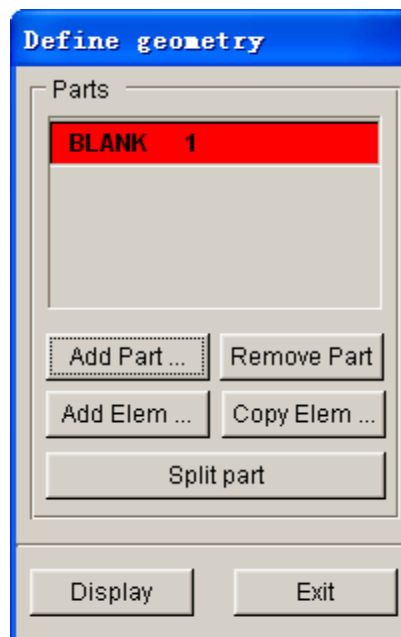

Figure 4.9 Blank geometry list
5. After selecting the part, click on **OK** button to return to DEFINE GEOMETRY dialog box. The **BLANK** part is added to the list. See Figure 4.9.